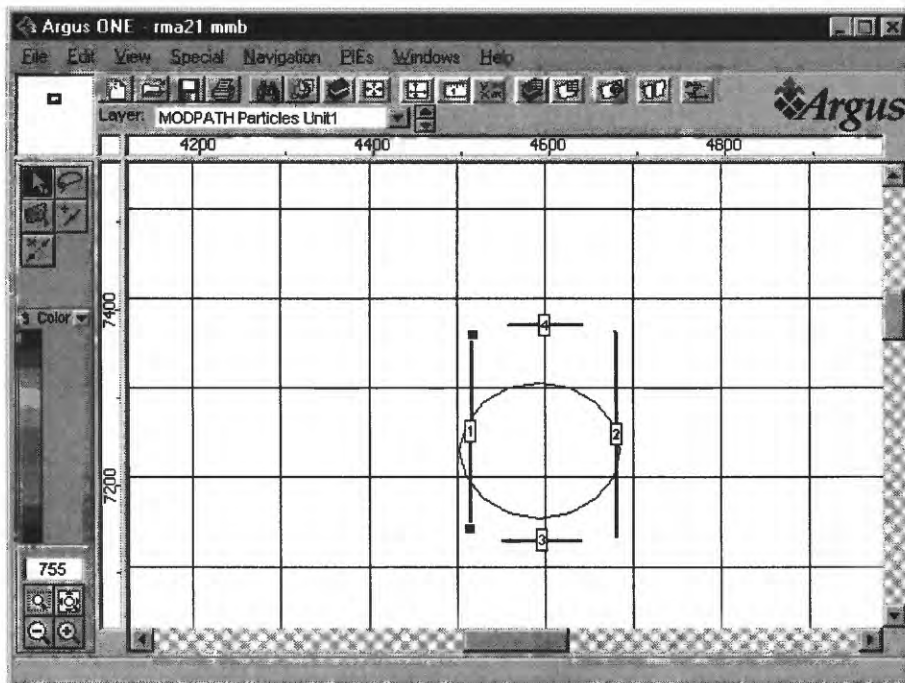

Figure 28. Contours on "MODPATH Particles Unit1" layer.
20. Now try using MODPATH to determine the locations that receive water that infiltrated at the disposal pond. First, define the starting locations of the particles for MODPATH. Make MODPATH Particles Unit1 the active layer and zoom in on the area with the disposal pond. Draw four contours on that layer as shown in figure 28.